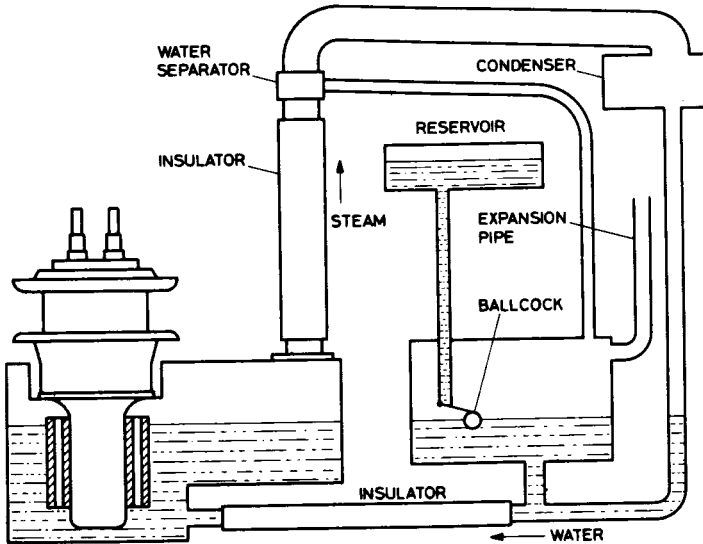

Fig. 2. Upward steam exit to separate condenser
- a) upward steam exit (see Fig. 2). This is the usual type and has the advantage that it operates by natural convection, so that it has almost no moving parts. It is quiet in operation and extremely reliable.